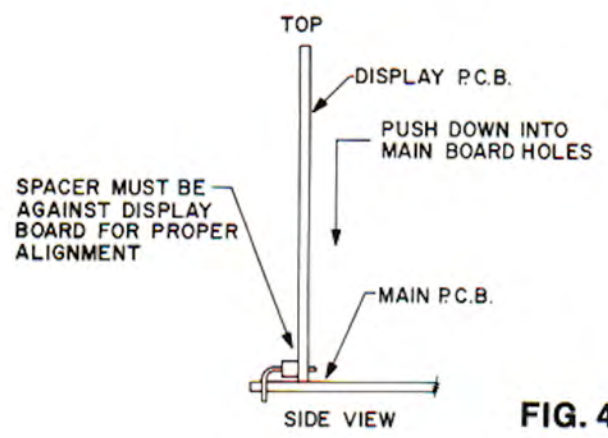

FIG. 4
- [] Carefully and gently push connector pins of Display Board down into the mating holes on the Main Board. Check to be sure that Display board is seated flush against Main Board and at a perfect 90° angle. (FIGS. 4 & 5).